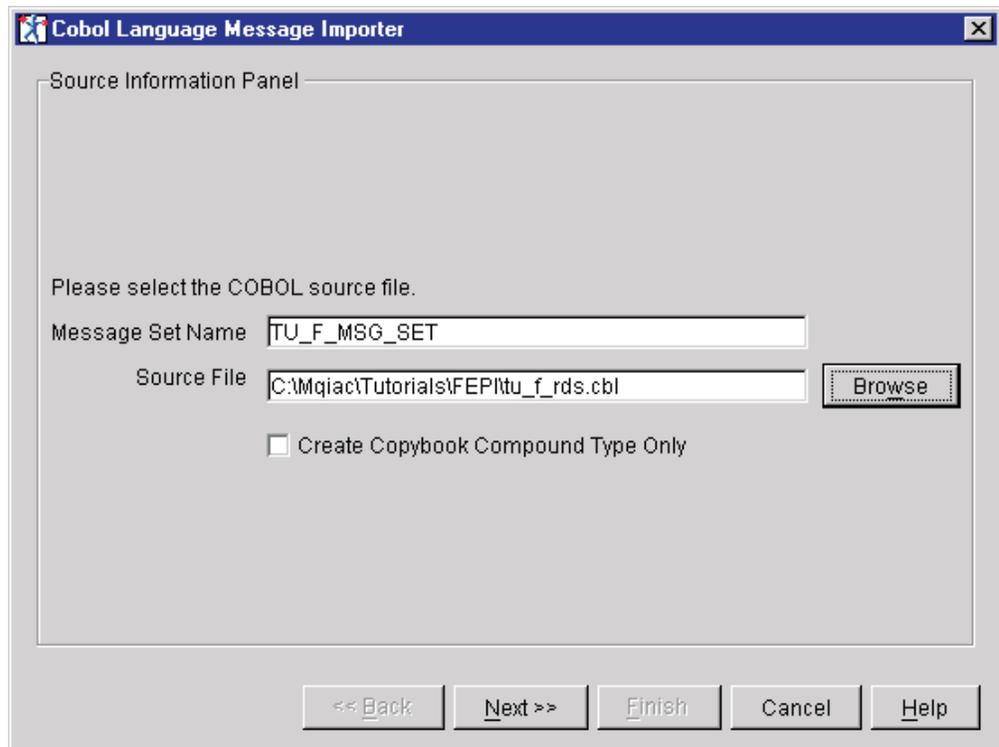

Figure 84. Import a message set (source information)
- d. Right click on the newly created TU\_F\_MSG\_SET folder and select **Import to Message Set > COBOL**. On the COBOL Language Message Importer dialog (Source Information Panel), enter the directory path where the Source Files for the copybooks are located (<mqiac\_tutorials>\fepi\tu\_f\_rds.cb1). See Figure 84 on page 122). Click **Next**.